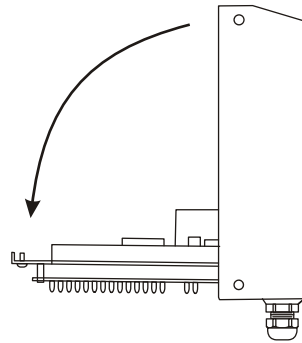

Figure 3.3 Electronics plate down
2. Slowly, allow the electronics plate to swing down. The controller board and power supply board are now accessible for installation, wiring and service. See Figure 3.3.